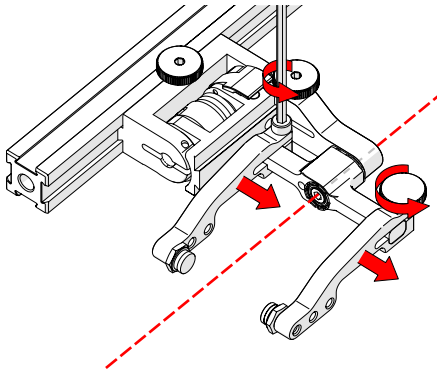

Fig. 39 - Adjust probe holder arms
5. Loosen the arm clamp screw and the probe holder arm adjustment knob (Fig. 39) and remove the outer probe holder arm from the yoke.
6. Adjust the inner probe holder arm to best centre the probe on the yoke's pivot axis (Fig. 39).